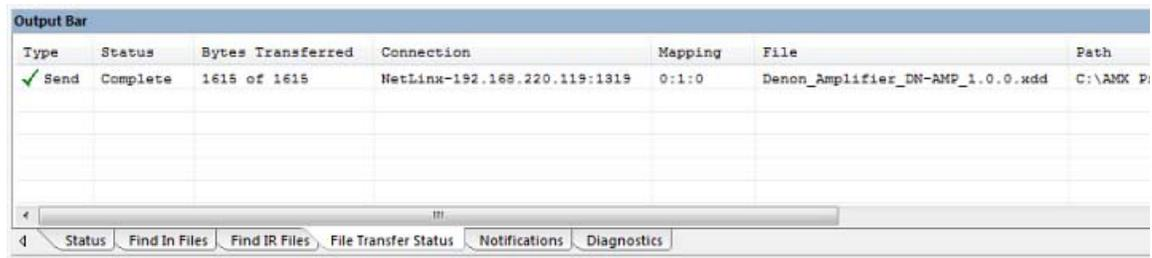

FIG. 116 Output Bar (File Transfer Status tab) - XDD File Transfer complete
9. The progress and final status of the file transfer is indicated in the *Output bar* (FIG. 116):